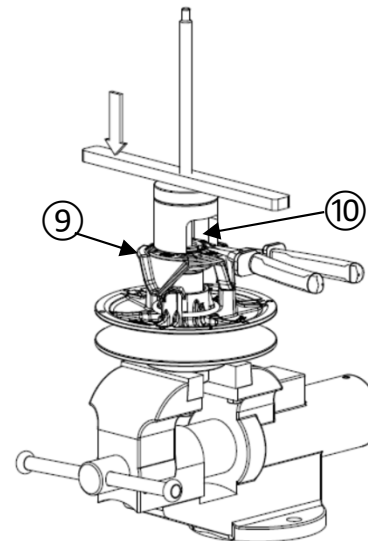
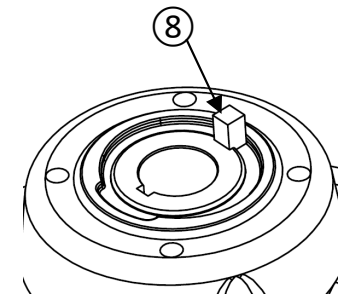

Figure 32
Figure 31
- Press down the cam ⑨ onto the fixed sheave ① shaft with the disassembly tool. Position the key ⑧ into the fixed sheave ① shaft groove (figure 31).
- Put the retaining ring ⑩ on the cam ⑨.
- Make sure that the fixed sheave ① is blocked in rotation, turn the sliding sheave ④ counter clockwise to position the cam shoes ⑤ on the proper side of the cam ⑨ sliding surface as it was before disassembly.
- Screw the disassembly tool bar until the cam ⑨ is low enough to install the external retaining ring ⑩ (figure 32).